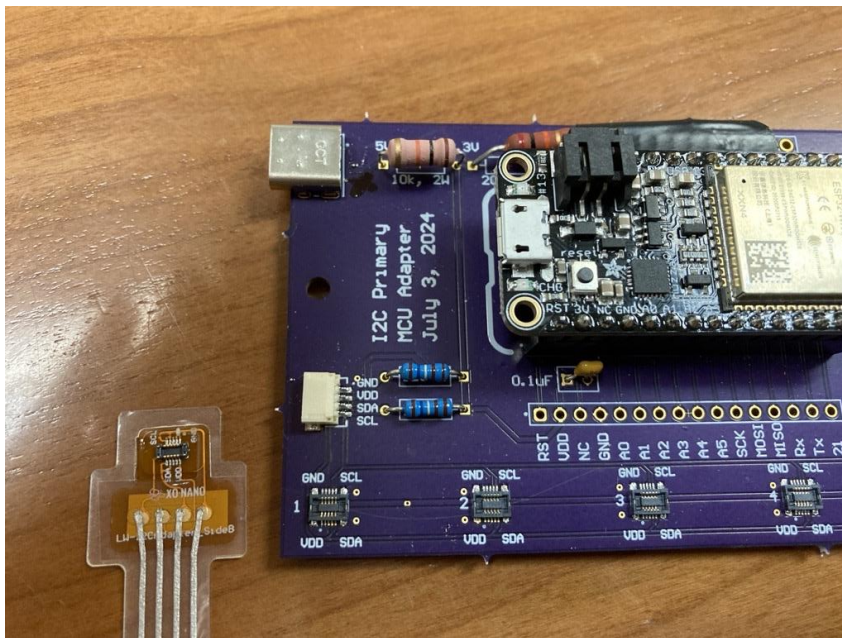

Figure 2 Close up image of the I2C Primary MCU Adapter and a Liquid Wire cable end.
2. Connect the I2C Primary MCU Adapter PCB to an 8” Liquid Wire (LW) cable. See Figure 2, and **note** that the cable and PCB have white trace labels that need to line up. This is also true for the XOS2_v2 to LW cable connection.